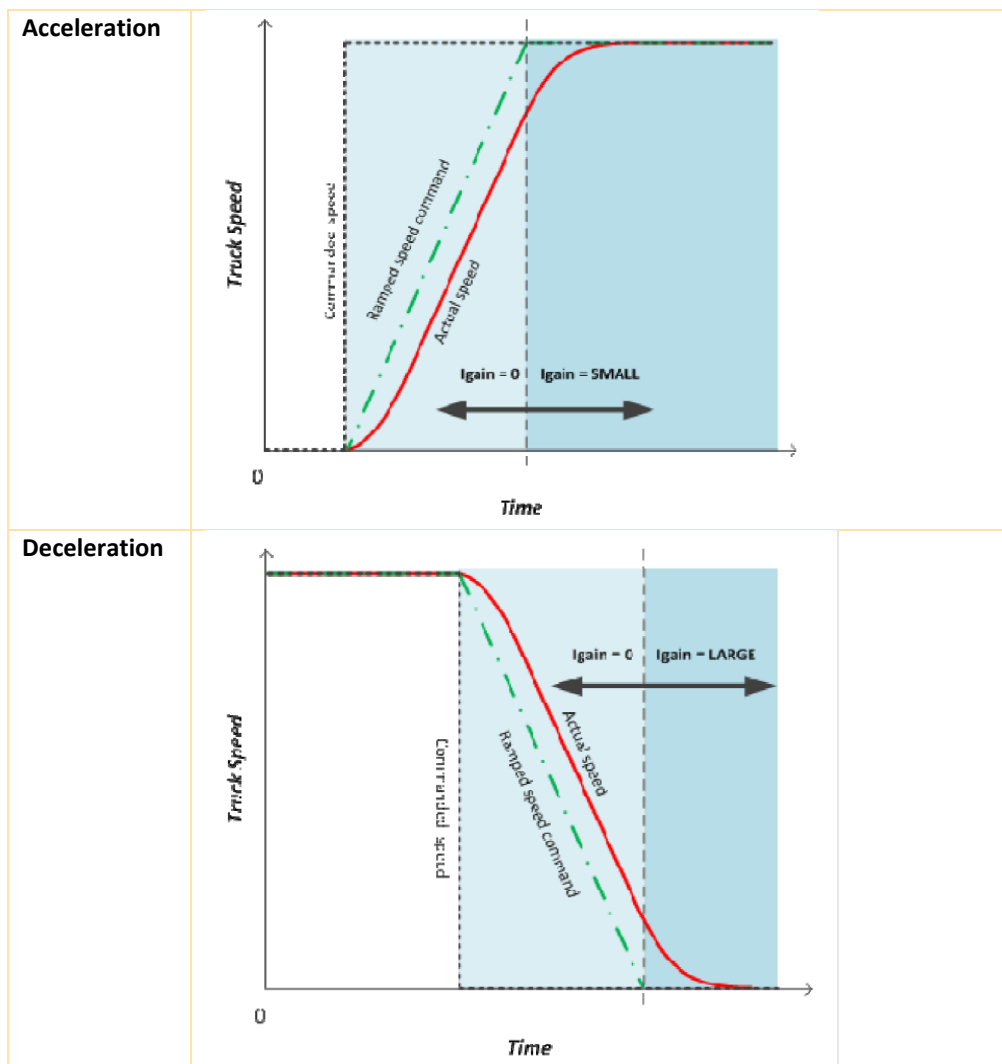

Figure 24 Use of I-gain during a typical acceleration and deceleration phase. This is valid only for SpeedRamp mode set to 4 or 5
- Speed PI Controller I-gain (Small, Medium and Large) Set 0-3 (2091h-2093h:1-4): The I-gain is typically used to increase sensitivity to small changes in operator controls when at or near zero speed. I-gain, in combination with P-gain, is beneficial for holding zero speed or to overcome friction when starting. Excessive I-gain can cause the motor/load to break into oscillation. I-gain should not be introduced until P-gain has been adjusted and the motor/load exhibits stable operation. It should be observed that there are three I-gains (Small, Medium and Large) that are used in PDO and Parameter Controlled Ramp modes. Table 12 explains during which operating conditions the Small, Medium and Large I-gain, respectively, are used. In Figure 24 it is visualized how the different types of I-gains (Small and Large) are working during a typical acceleration and deceleration phase. Figure 24 shows how the ramping of internal speed reference and changing speed controller integral gains typically is done during acceleration and deceleration.